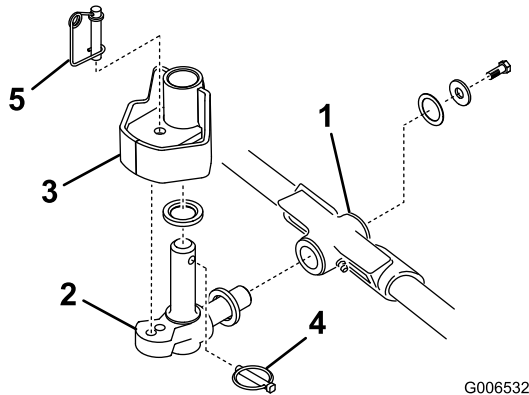

Figure 17
- 1. Insert a thrust washer onto horizontal shaft of pivot knuckle as shown in Figure 17.
- 2. Insert the horizontal shaft of the pivot knuckle into the mounting tube of the carrier frame (Figure 17).
- 3. Secure pivot knuckle to carrier frame with a thrust washer, flat washer and a flange head capscrew (Figure 17).
- 4. Insert a thrust washer onto vertical shaft of pivot knuckle (Figure 17).
- 5. If removed, insert the vertical shaft of the pivot knuckle into lift arm pivot hub (Figure 17). Guide the pivot knuckle in place between the two rubber centering bumpers in the under side of the lift arm steering plate.
- 6. Insert the lynch pin into the cross hole on the pivot knuckle shaft (Figure 17).
Note: If fixed cutting unit position is required, insert steering locking pin into pivot knuckle mounting hole (Figure 17).
11. Hook spring wire around bottom of steering locking pin (Figure 17).